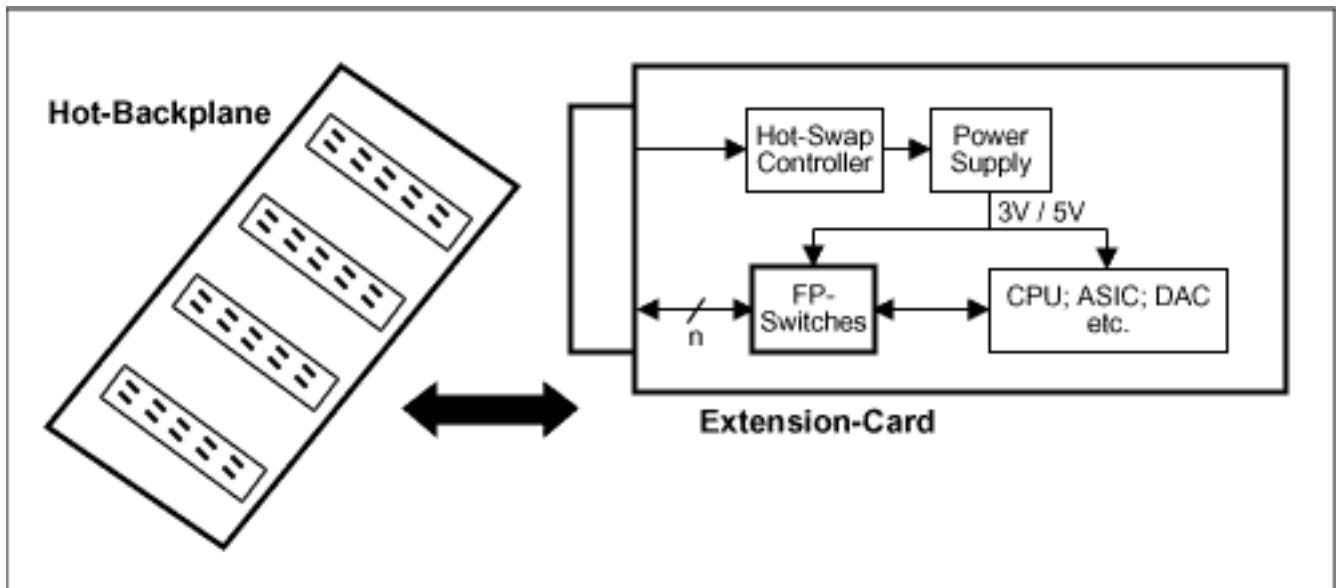

Figure 7. Hot-swapping backplane signals.
Low-voltage, fault-protected switches between sensitive parts and the backplane connection (Figure 7) give the required over-voltage protection. The switches maintain their COM outputs in a high-impedance state until the card's supply voltage comes up and closes the switch connection to the backplane. The switch's protected (NO) inputs face the backplane, giving $\pm 12\text{V}$ protection while power is off, and also protecting the card against overvoltage from the backplane when supply voltage is present. Note that the popular logic-bus switches from various vendors do not provide this sort of protection. They provide a higher allowable value for latch-up current than do standard CMOS parts, but they do not withstand continuous overvoltage.